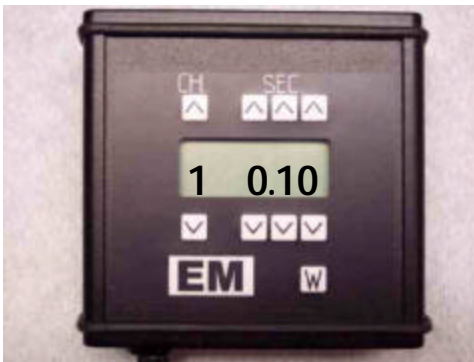

Fig. 3
2. By pressing the any of the 6 sec buttons you can change the time that the channel is activated. (Fig. 3)